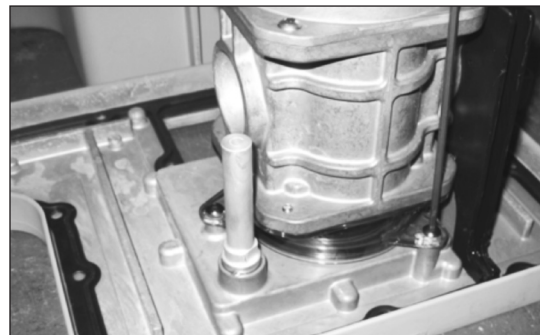

Figure 16.5 Example - Remove 3 (#10-24) screws
5. Use a 1/8" Allen wrench to remove the 3 (#10-24) screws on the amber colored measurement cartridge end cover as shown in Figure 16.5 Example.